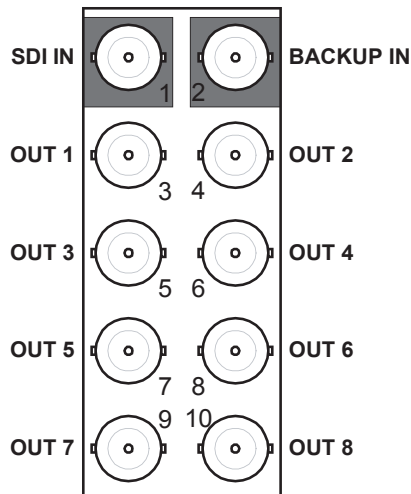

Figure 2.2 Cable Connections for the 8320AR-300 Full Rear Module
- 8320AR-300 Full Rear Module — Each rear module occupies two slots and accommodates one card. This rear module provides an SDI input, an auxiliary input, and eight SDI outputs via BNC connections. (**Figure 2.2**)